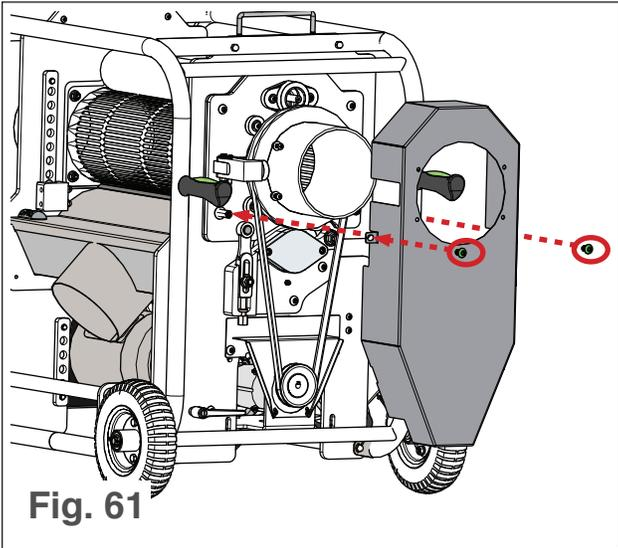

Fig. 61
12. Place the tumbler belt cover over the tumbler belt (see Fig. 61).
13. Insert and tighten the tumbler belt cover screws (see Fig. 61).